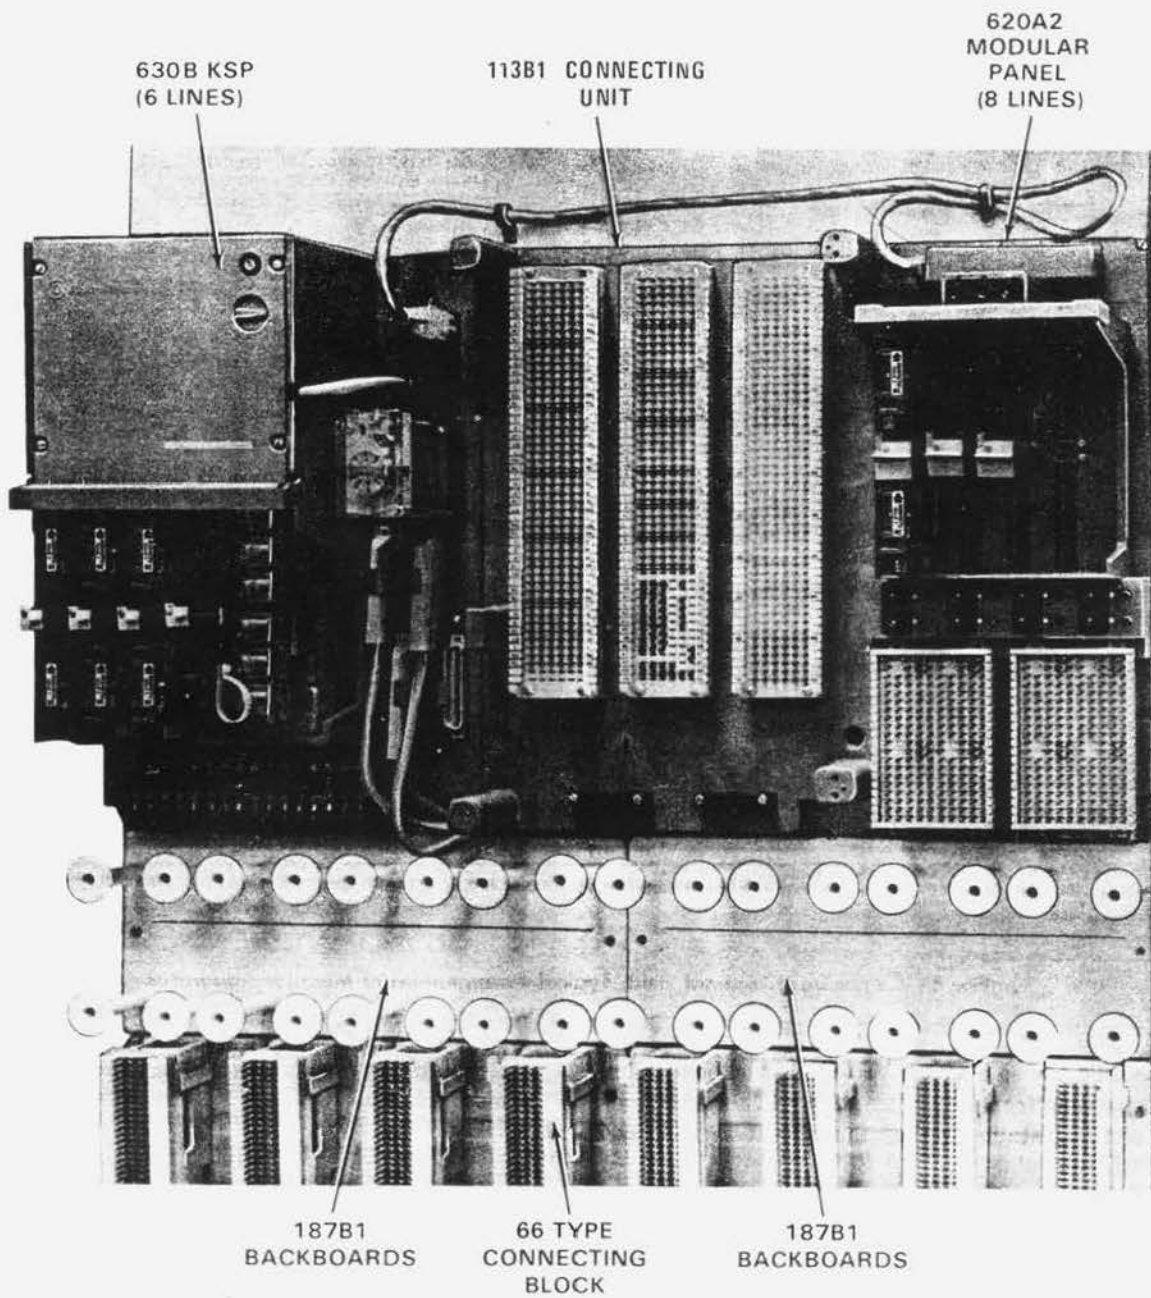

Fig. 7 — Typical Large KTS Installation With 630-Type KSP, 113A1 CU, and 620-Type Modular Panel
**3.08** A preferred installation method is illustrated in Fig. 7 using the 630-type KSP (Section 518-215-424) as the first modular panel in a centralized terminal field. The 287A1 power supply in the 630-type KSP will power two additional modular panels. With the arrangement in Fig. 7, the installer has the option of using the 113A1 connecting unit (CU) and modular panel terminals as a station terminal (BLUE) field, or may use the 113A1 CU and modular panel terminals as a KTS equipment (RED) field with the station terminal (BLUE) field mounted below.